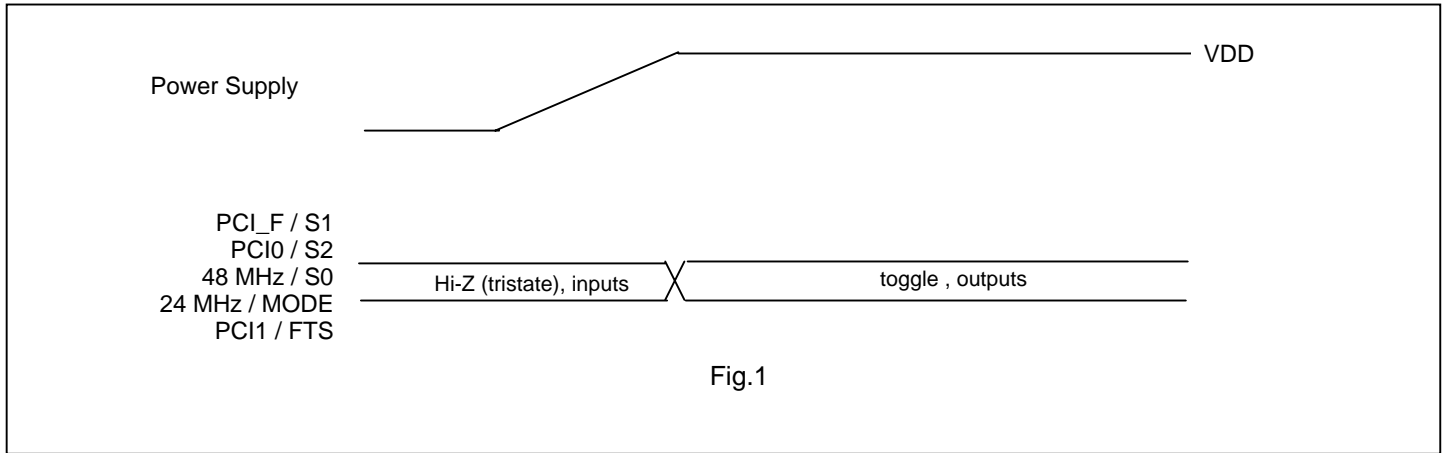

Fig.1
PCI1 / FTS, PCI0 / S2, PCI_F / S1 - Low skew (<250pS) PCI clock outputs. These pins are bidirectional. During power-up, These pins are inputs (FTS, S2 and S1) and are used for HARD selecting the output frequency of CPU, SDRAM and PCI clocks, see Frequency table page1 and page 11, fig.3. When the power reaches the VDD rail (See Fig.1, page3), the selected data is latched internally to the IC and these pins become PCI1, PCI0 and PCI_F clock outputs.
48 MHz / S0 - This is a bidirectional pin. During power-up, This pin is in input mode and is used for selecting the output frequency of CPU and SDRAM clocks, see Frequency table page1 and page 11, fig.3 for jumper application; this pin has an internal pull-up. When the power reaches the VDD rail (See Fig.1, page3), the selected data is latched internally to the IC and this pin becomes a 48 Mhz output for USB clock.
24 MHz / MODE - This is a bidirectional pin. During power-up, This pin is an input and is used for enabling (0) or disabling (1, default) the power management pins 15 and 46. see page 4 and page 11, fig.3 for jumper application; this pin has an internal pull-up. When power reaches the VDD rail (See Fig.1, page 3), the selected data is latched internally to the IC and this pin becomes a 24 Mhz output for SIO clock.